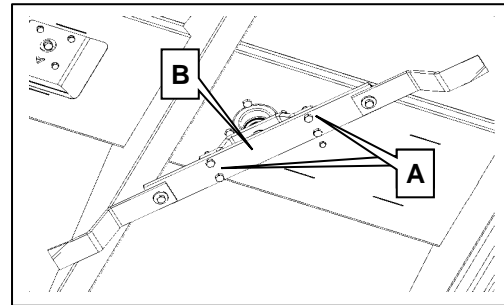
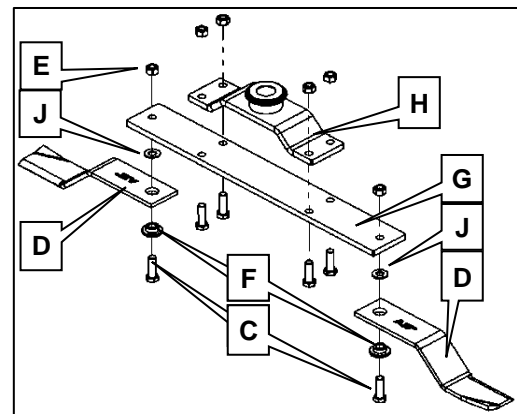

Figure 8.8
Figure 8.9
- 8.5.4.7 With assistance, support the blade carrier, remove the split pin and rotor castle nut and remove the rotor from the splined gearbox output shaft. Refer to the Figure 8.8.
Lift and support the machine on safety supports. With assistance, support the blade carrier assembly, remove the split pin (K) and rotor castle nut (J) in Figure 8.8. and remove the whole blade carrier assembly from the splined gearbox output shaft through (B), see Figure 8.8.
If necessary, the blade bar (G) in Figure 8.9 may be removed and replaced without upsetting the driveline timing. Undo four fasteners (A) in Figure 8.8. The blade bar with blades attached can be removed.
To Remove: Unfasten blade bolt (C), locknut (E), flat washer (J) in Figure 8.9 and discard. Dismantle the blade (D) and blade bush (F).